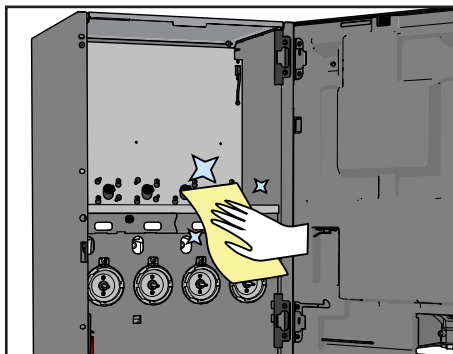

Figure 46.
16. Clean the inside of the machine with a slightly damp cloth (see Figure 46).